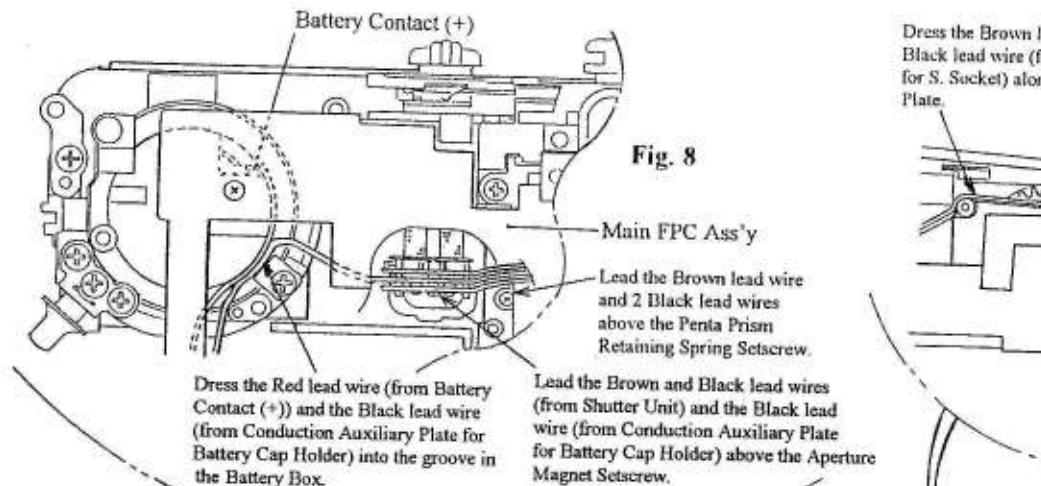

Fig. 8
- c) When installing the Exp. Compensation Dial P.C. Board Ass'y, dress the Red lead wire (from Battery Contact (+)), Black lead wire (from Conduction Auxiliary Plate for Battery Cap Holder) and the Black and Brown lead wires (from Shutter Unit) as shown in Fig. 8.